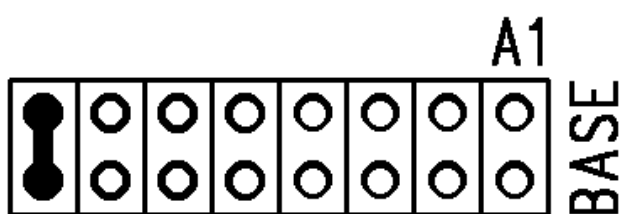

Figure 2-2 Base Address jumpers set for 300H.
- Fig. 2-2: Base address jumpers (factory default)